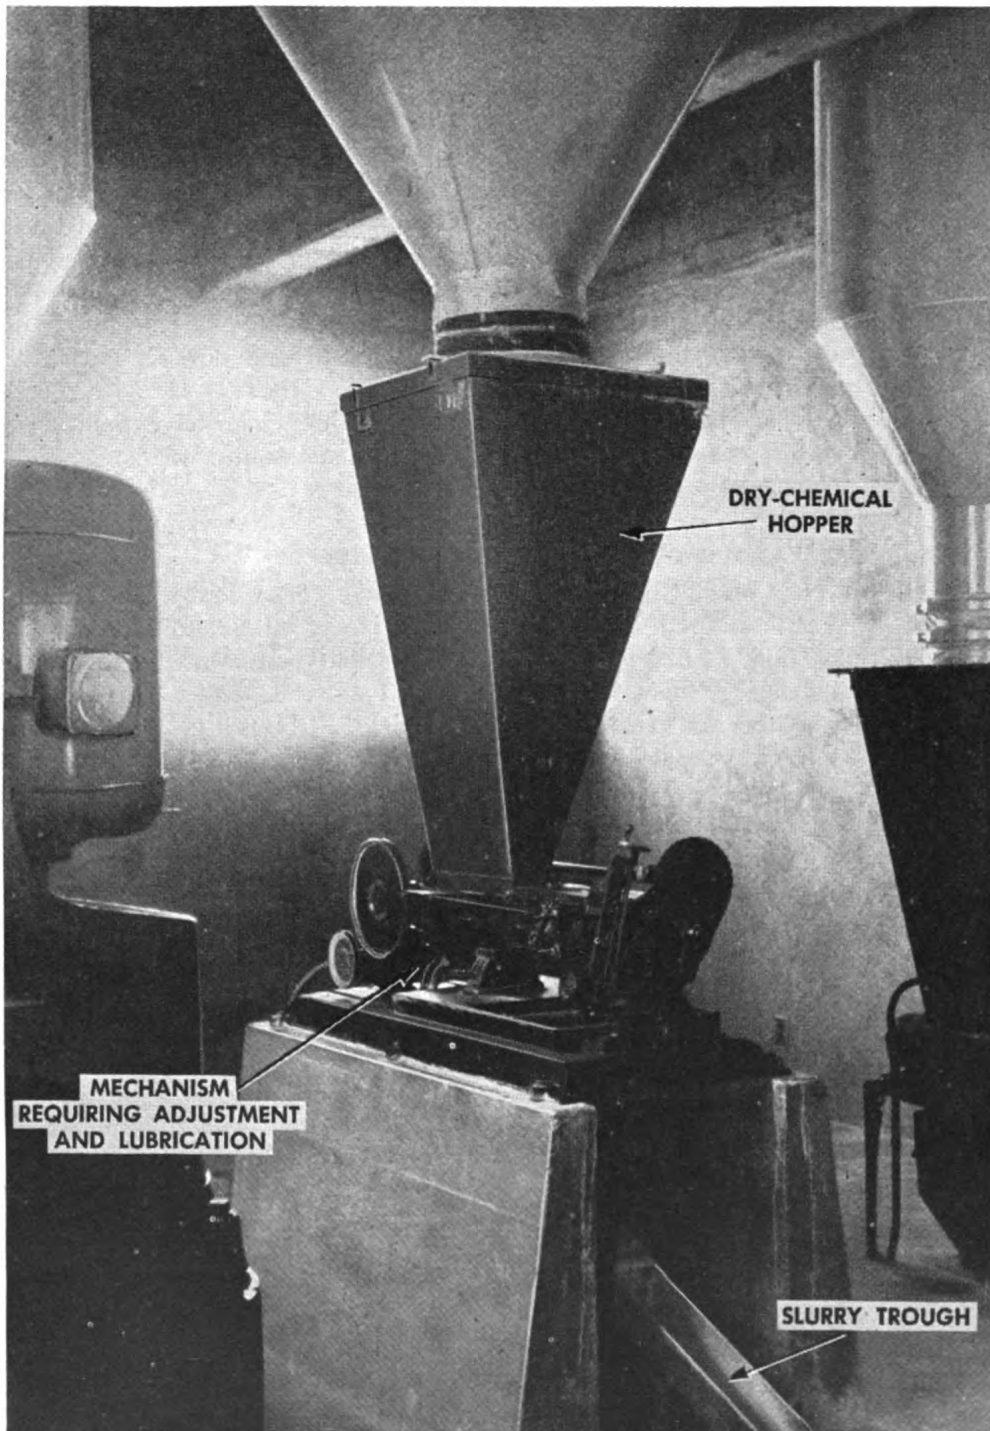

Figure 53. Dry chemical feeder installation.
d. Overhaul Feeder. (1) Remove, inspect, and clean all bag diaphragms.
(2) Remove, inspect, and clean all orifice plates, needle valves, etc.
(3) Touch up all metal parts with paint.
a. Clean and Inspect. Clean feeder, feeder mechanism, and feeder surroundings. Remove spilled chemical and chemical-dust accumulations with vacuum cleaner or brush. Look for oil drips, wiring defects, and deterioration. Observe general performance of feeder. Note and investigate unusual noises. See that orifice, knife edges, scrapers, shakers, and opening are free of chemical accumulations. Probe solution tank for sediment or undissolved chemical and make necessary corrections. Be sure that hopper fills are made without chemical spillage on working parts of feeder (fig. 53). If chemical feeder is out of service, see that feeder is empty of chemical and that condensation is not causing deterioration.